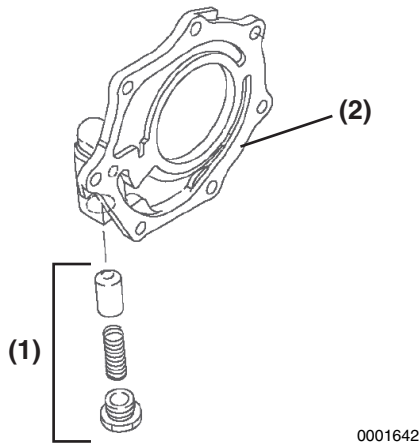

Figure 9-7
- Remove the oil pressure regulator valve (**Figure 9-7, (1)**) from the oil pump cover (**Figure 9-7, (2)**).